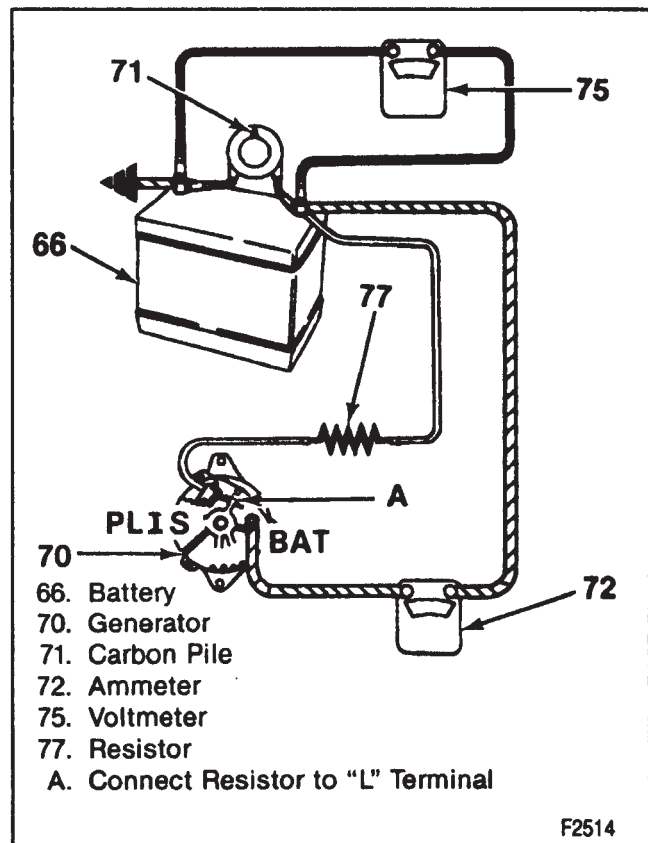

Figure 4—Connections for Generator Output Test
1. Make connections as shown in figure 4, except leave the carbon pile disconnected. The ground polarity of the generator and battery must be the same. The battery must be fully charged. Use a 30 to 500 ohm resistor between the battery and the "L" terminal.